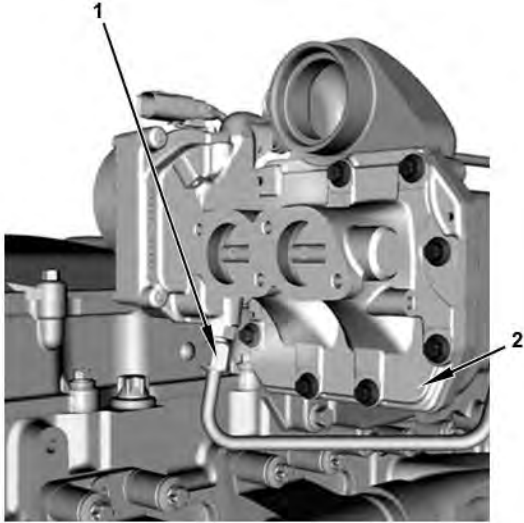

Figure 18 EGR Valve
23. Remove the EGR valve coolant supply tube nut (1) and position the coolant supply tube away from the EGR valve (2) (Figure 18).